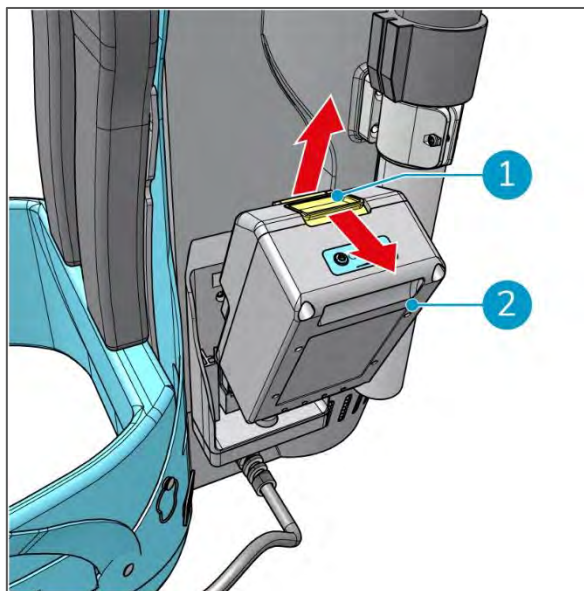

Figure 20
1. Press the yellow button of the battery (Figure 20, pos 1) to unlock it.
2. Pull out the battery (Figure 20, pos 2).